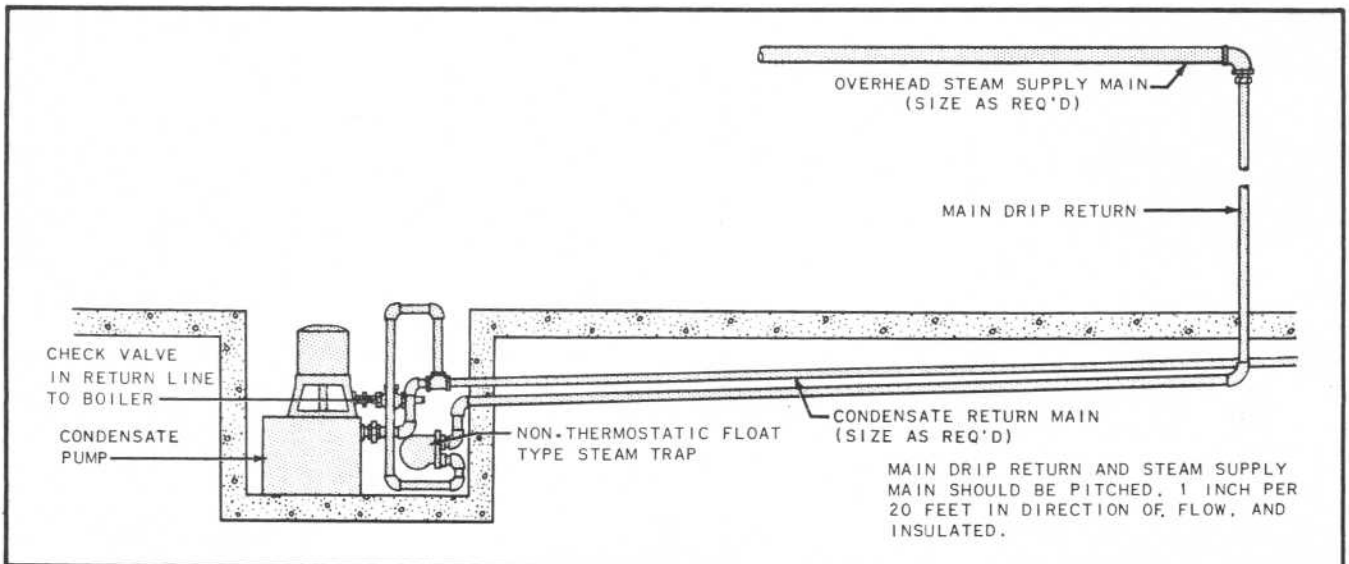

Figure 30 - Drip Main Connection
- c. DRIP MAINS - In some instances the steam main may end at a point where the trap would be difficult to service under these circumstances, a drip line sized as for a return main (Article 8, Page 10) may be run from the end of the steam main back to the trap. This "drip" line must be pitched downward in the direction of flow and thoroughly insulated. (See Fig. 30)